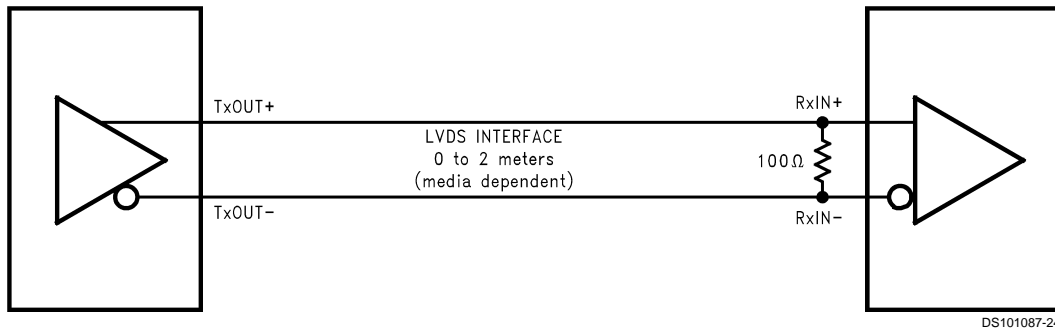

FIGURE 17. LVDS Serialized Link Termination
**TERMINATION:** Use of current mode drivers requires a terminating resistor across the receiver inputs. The CHANNEL LINK chipset will normally require a single 100 $\Omega$  resistor between the true and complement lines on each differential pair of the receiver input. The actual value of the termination resistor should be selected to match the differential mode characteristic impedance (90 $\Omega$  to 120 $\Omega$  typical) of the cable. *Figure 17* shows an example. No additional pull-up or pull-down resistors are necessary as with some other differential technologies such as PECL. Surface mount resistors are recommended to avoid the additional inductance that accompanies leaded resistors. These resistors should be placed as close as possible to the receiver input pins to reduce stubs and effectively terminate the differential lines.